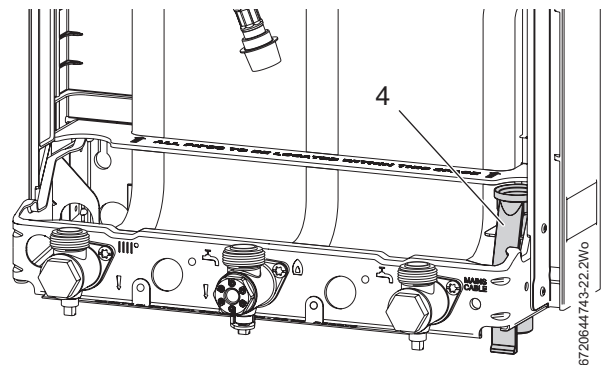

Fig. 59 Pressure relief drain pipe
- ▶ Referring to figure 59, check pressure relief drain pipe (1) is correctly fitted and securely tightened.